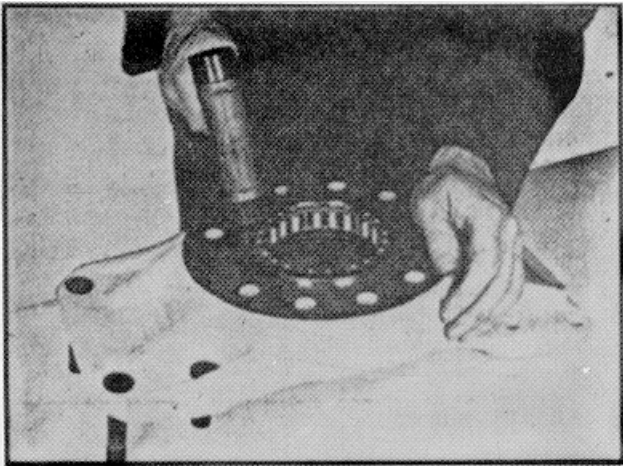

Fig. 35
1. Pack the roller bearing with the proper lubricant and press into place in the spindle yoke. (See fig. 35.)